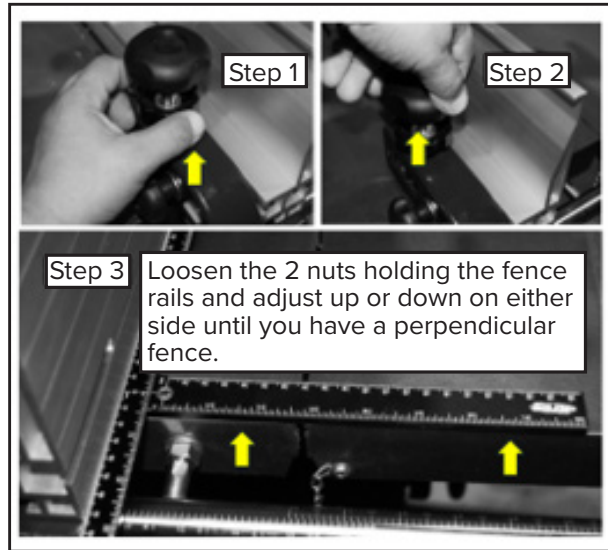

Figure 27: Fence Drift Adjustment
- 1- Loosen the lower fluted knob see step 1 fig. 27
- 2- Adjust the upper fluted knob to move the fence see step 2 figure 27.
4. Once aligned, fully tighten the Fence Rail Nuts Fig. 27.